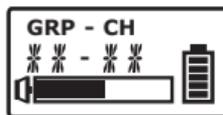

Fig. 7
- (C) To change Group and Channel, do it on the receiver and then press ACT button on the receiver to sync.
- (D) The specific Group and Channel set by PC will display \* \* \* \* , Fig. 7.